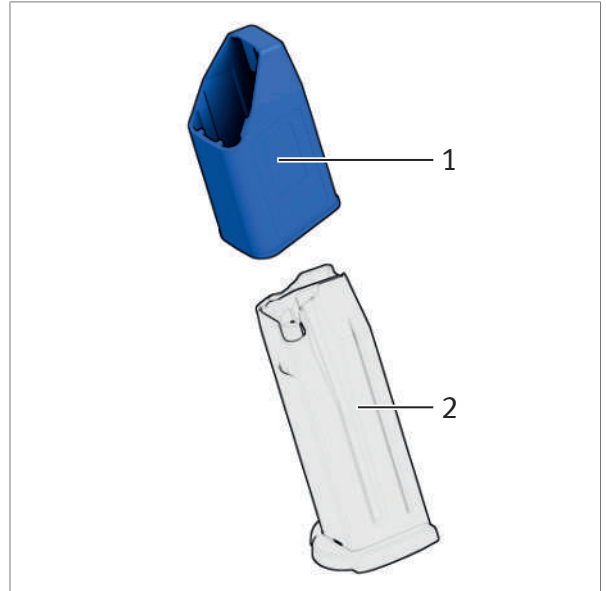

Fig. 50: Place loading aid on magazine
1. Place loading aid on magazine (Fig. 50).